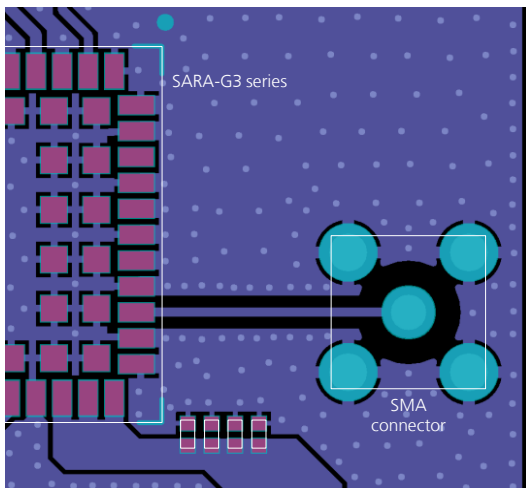

Figure 40: Suggested circuit and layout for antenna RF circuit on application board, if antenna detection is not required
- Add GND vias around transmission line, as described in Figure 40
- Ensure solid metal connection of the adjacent metal layer on the PCB stack-up to main ground layer, providing enough on the adjacent metal layer, as described in Figure 40
An example of proper RF circuit design is reported in the Figure 40. In this case, the antenna detection circuit is not implemented: the **ANT** pin is directly connected to an SMA connector by means of a proper 50 Ω transmission line, designed with proper layout.
- SMA Pin-Through-Hole connectors require GND keep-out (i.e. clearance, a void area) on all the layers around the central pin up to annular pads of the four GND posts, as shown in Figure 40
If the antenna detection function is not required by the customer application, the **ANT_DET** pin can be left not connected and the **ANT** pin can be directly connected to the antenna connector by means of a 50 Ω transmission line as described in Figure 40.